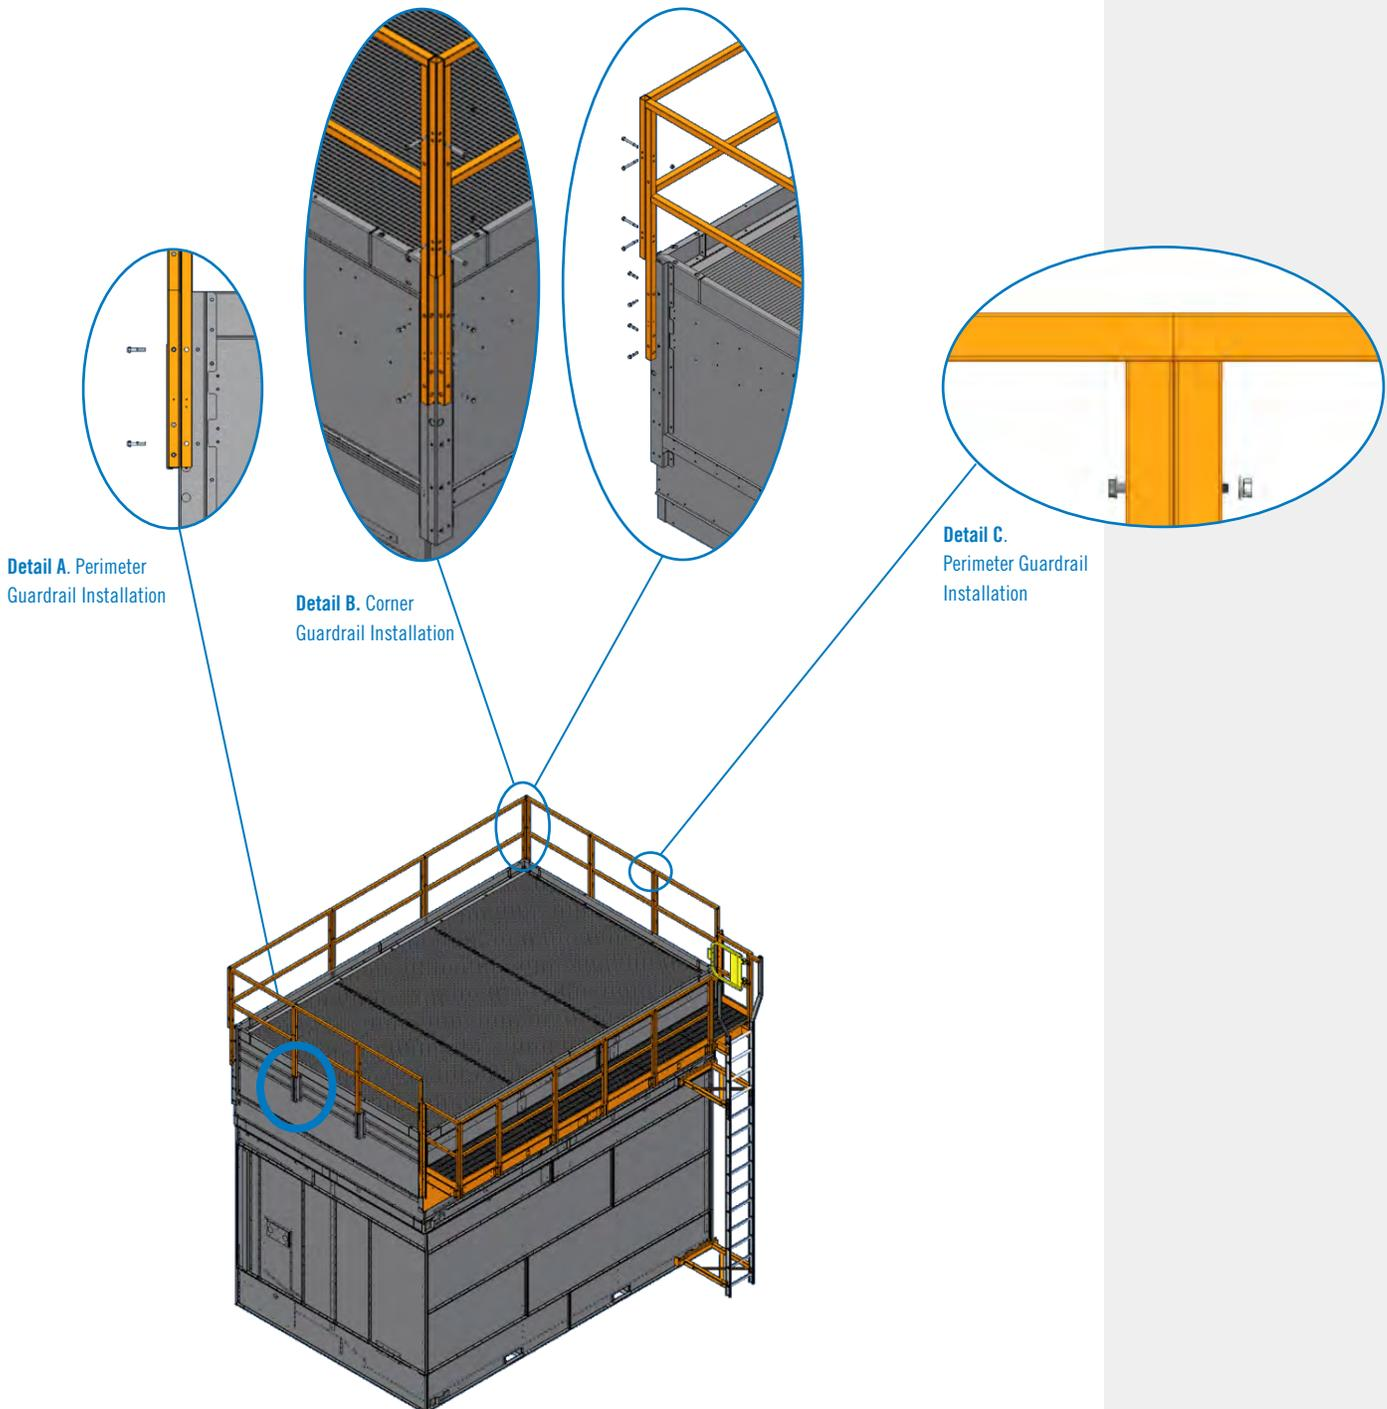

Figure 10. Perimeter Guardrail Installation
6. Using the supplied hardware, install the perimeter guardrails at the bracket points as shown in **Figure 10, Detail A and Detail B**.
7. At the point where two vertical support meet, install the factory supplied fastener through each support as shown in **Figure 10, Detail C**.